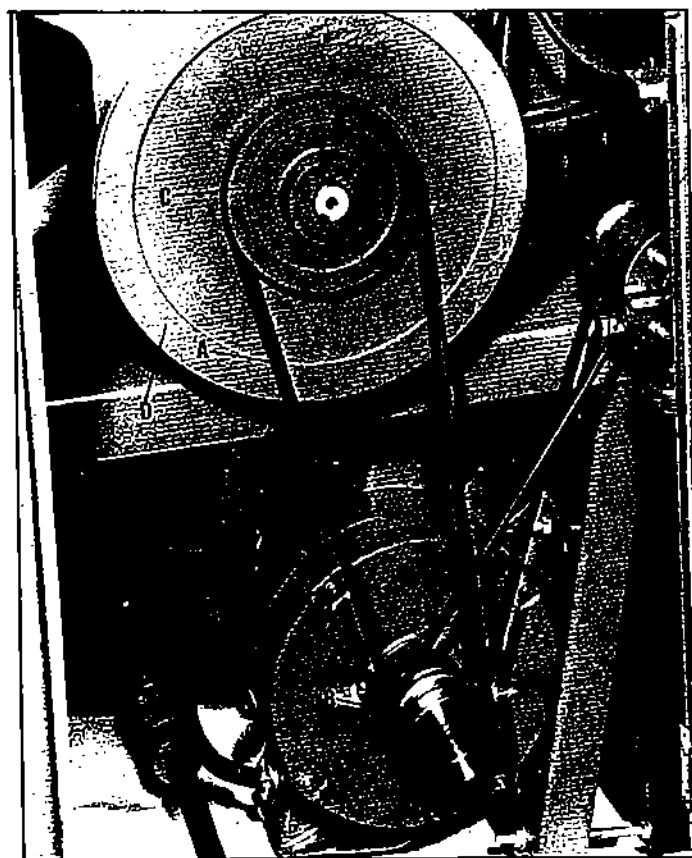

Fig. 9
When the belt (A) Fig. 9, is assembled to the outside groove of the motor pulley (B) and the small driven pulley (C), the cutting speed will be 4500 fpm.
For 2000 fpm, non-ferrous cutting, simply remove the belt (A) Fig. 9, and assemble the longer belt, which is supplied with your machine, to the center groove of the motor pulley (B) and the large driven pulley (D). Then adjust belt tension as explained under ADJUSTING BELT TENSION.